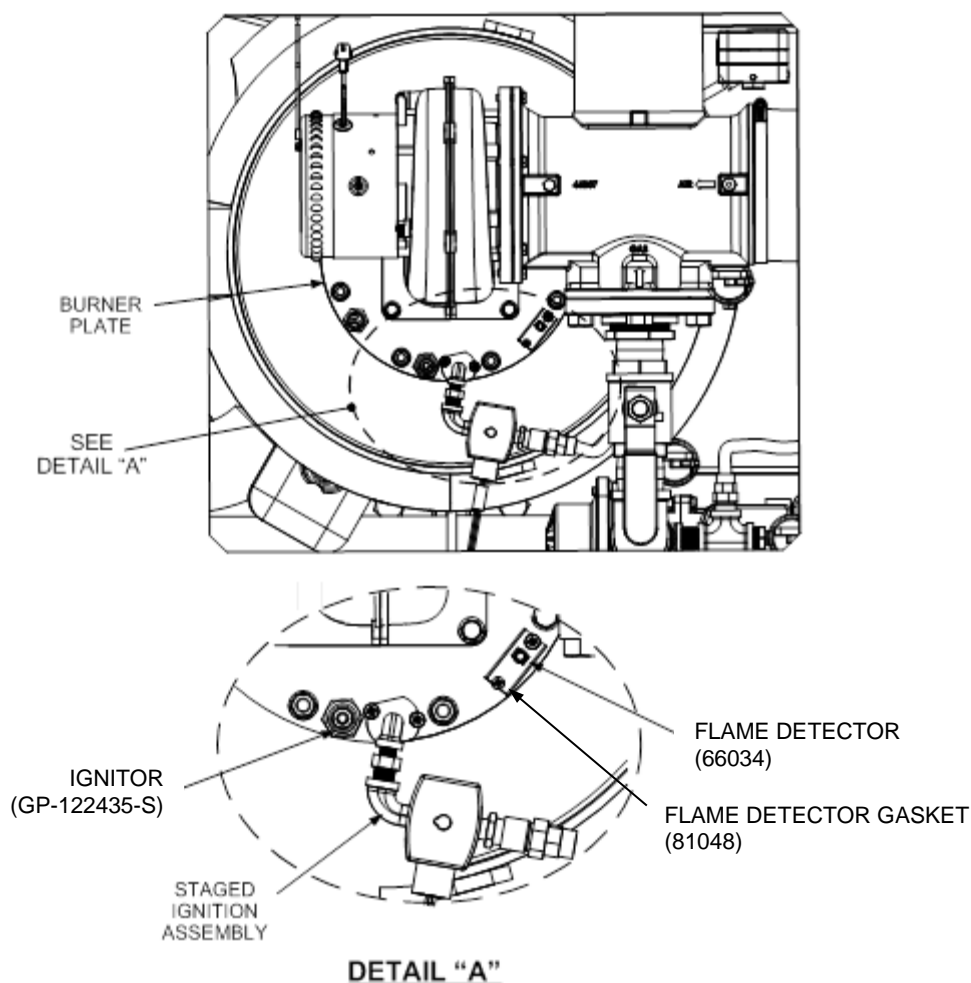

Figure 9. Burner Assembly Igniter & Flame Detector Locations
3. Reinstall the igniter in the location shown in Figure 9. Do not over-tighten. A slight snugging up is sufficient.
1. Refer to Figure 9, above, to locate the flame detector installation location.